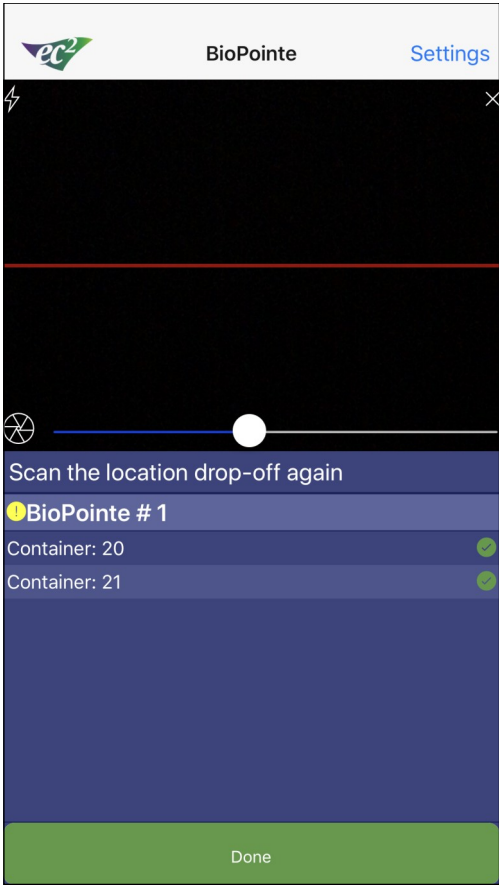

Fig 9
- h. Scan facility barcode or lick Done at the location to finish the delivery tracking process. See Fig 9